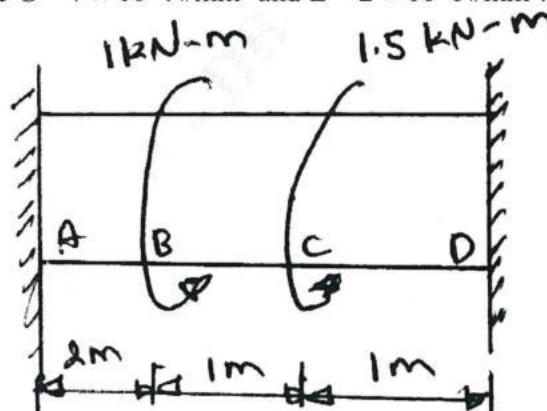

Fig.Q6(b)
b. A bar of circular cross section having a diameter of 50 mm is firmly fixed at its ends and subjected to a torque at B and C as shown in Fig.Q6(b). Determine maximum angle of twist and shear stresses. Take $G = 7 \times 10^4 \text{ N/mm}^2$ and $E = 2 \times 10^5 \text{ N/mm}^2$.